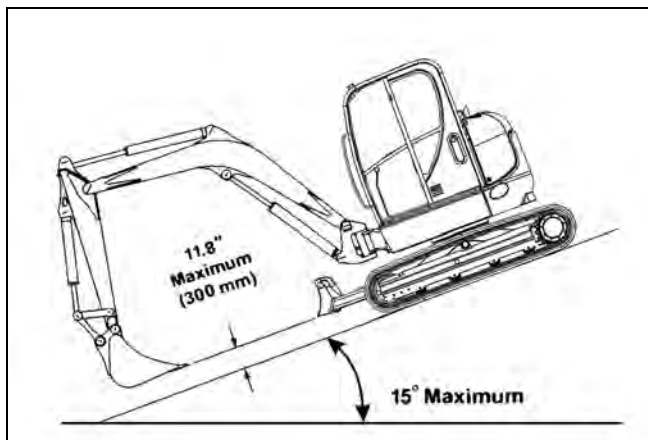

Figure 3-40 Travel Down Slopes
3. Travel straight up and down slopes; never travel across the slope. See Figure 3-40. Extend arm and lower boom to keep the bucket about 12" (300 mm) off the ground. If the machine starts to slide or becomes unstable, lower the bucket to regain control. If the engine stalls, lower the bucket, make sure that all controls are in the neutral position and restart the engine. See "Operating on Slopes" on page 3-35 for more information about operating the machine on slopes.
- Travel straight up and down slopes — never across. See Figure 3-40. Extend arm and lower boom to keep the bucket about 12" (300 mm) off the ground. If the machine starts to slide or becomes unstable, lower the bucket to regain control. If the engine stalls, lower the bucket, be sure that all controls are in the neutral position and restart the engine.